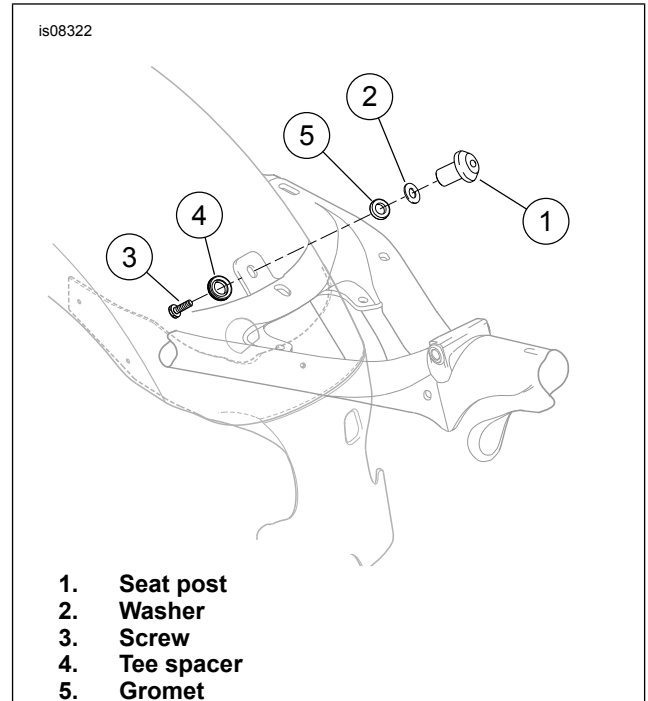

Figure 1. Seat Post and Mounting Hardware
2. See Figure 1. Remove and discard seat post (1), washer (2) and screw (3), grommet (5) and tee spacer (4) from the rear fender.